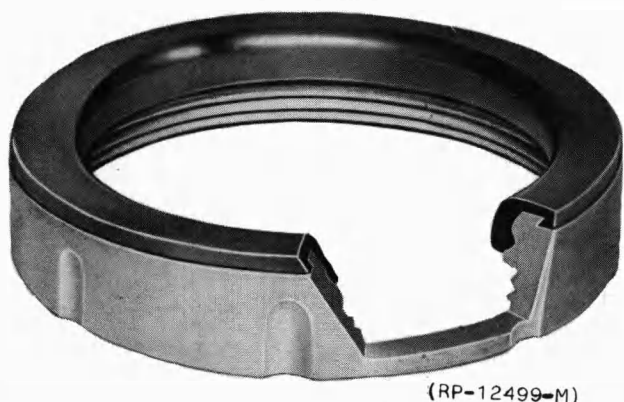

FIG. 12 INSULATED BUSHING (PAR. 5.43)
5.43 If power service leads of Number 4 or larger enter cabinets, starters, raceways, boxes, etc., the connector must have an insulated surface at the opening. This may be in the form of an insulated throat as an inherent part of the connector (Figure 11), or an insulated bushing, otherwise, substantial insulating material shall be fastened in place. If a wholly insulated bushing is provided a metal locknut for fastening the connector is required, however, the locknut may not be required if a metallic type insulated bushing (Figure 12) is furnished and this securely fastens the connector.